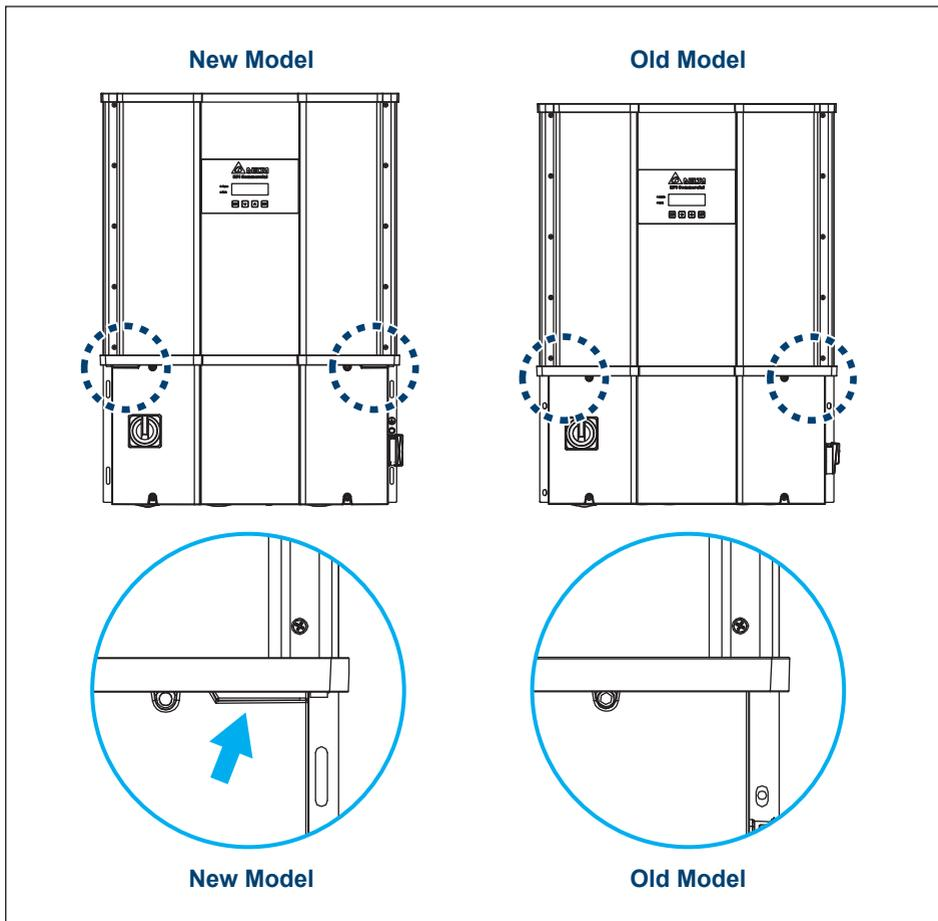
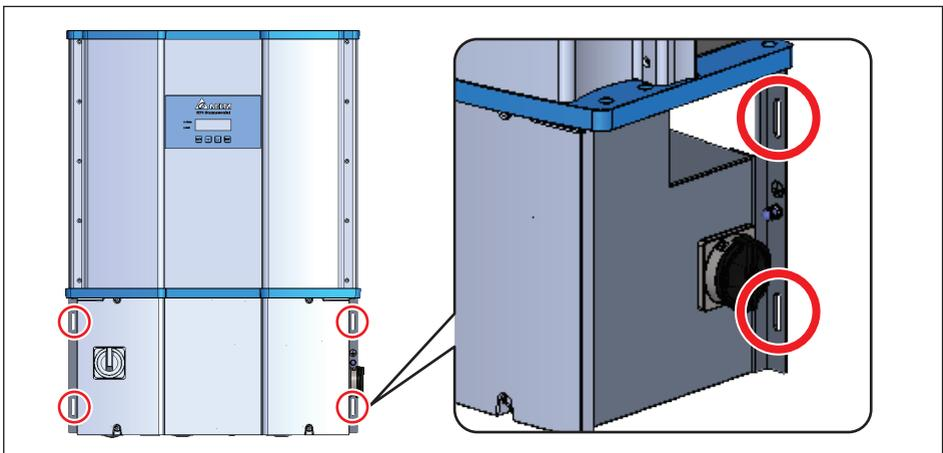

Figure 3-2: How to distinguish new/old models of M42/36U
Figure 3-14: Screw locations to secure inverter WB to wall-mounting bracket
Refer to **Figures 3-2** through **Figures 3-14**.
5. Secure the inverter by inserting and tightening four screws (item 6, **Figure 2-1**) as shown in **Figure 3-14**.
7. Secure the inverter by inserting and tightening four screws as shown in **Figure 3-14**.
Figure 3-2 shows how to distinguish new/old models of M42/36U.
After installing the unit on the bracket, secure the wiring box to the bracket with four screws per **Figure 3-14**. Tighten the screws to a torque of 40 lbf-in (4.5 N·m)